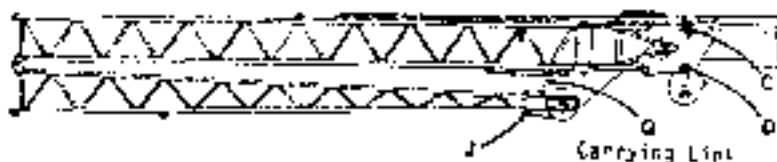

Fig. 4-51
Step 12: Refer to Fig. 4-51. Suspend the jib top section from the straight extension by pinning carrying link "Q" in place. When securely pinned, remove the hoist rope.